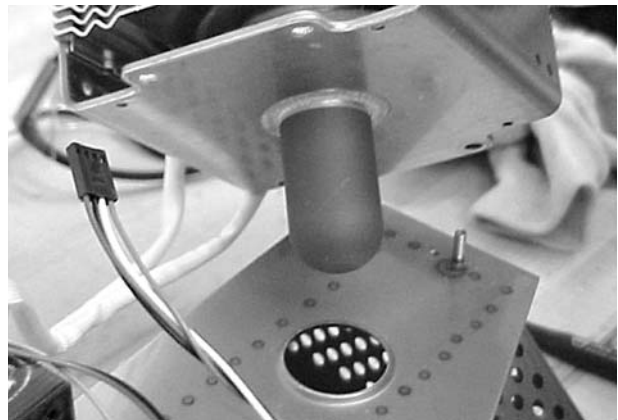

Figure 4-19 Installing the Magnetron
1. See Figure 4-19. Inspect the gasket around the antenna of the new magnetron making sure it is smooth and free of debris.